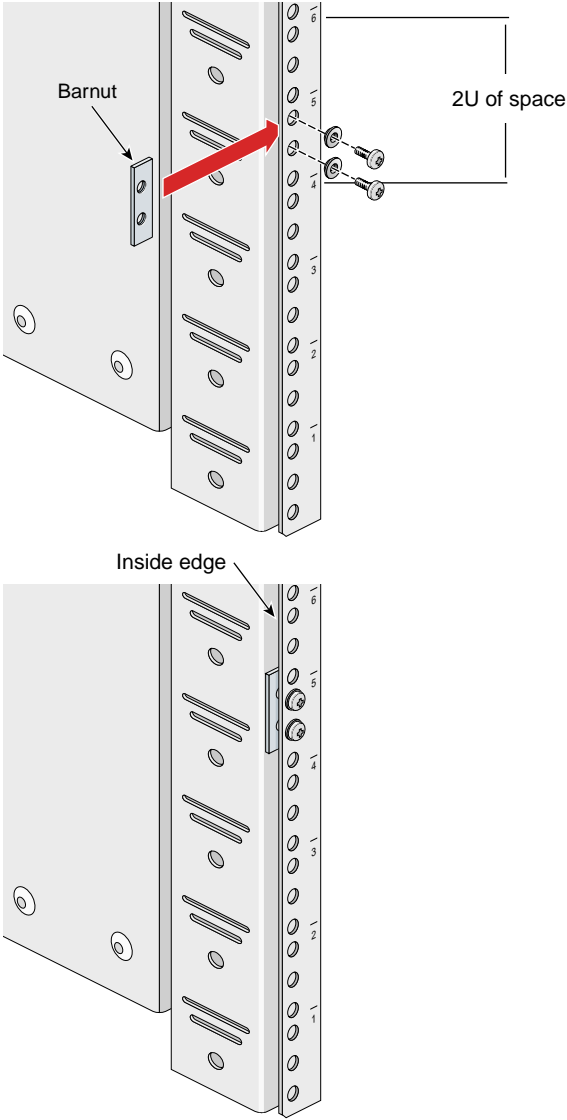

Figure B-5 Placing the Bar Nuts on the Rack Rails
2. Place one of the bar nuts inside the rack and align it with the second and third holes of the selected 2U of space (see Figure B-5).
Note: The holes in the bar nuts are not centered. The bar nuts need to be placed in such a way that the holes are closest to the inside edge of the rack rails. See Figure B-5.